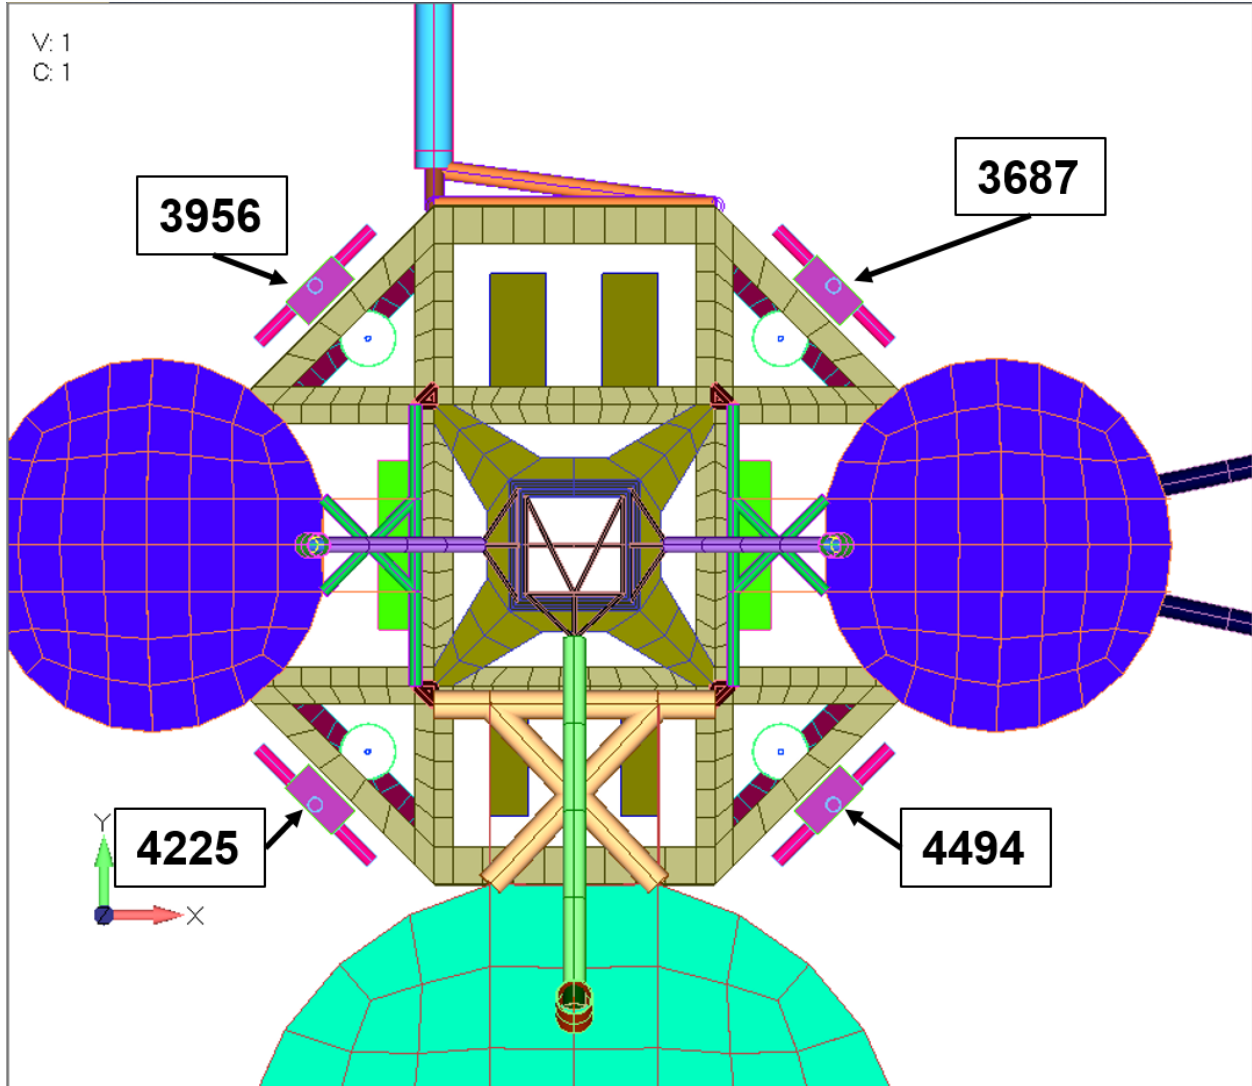
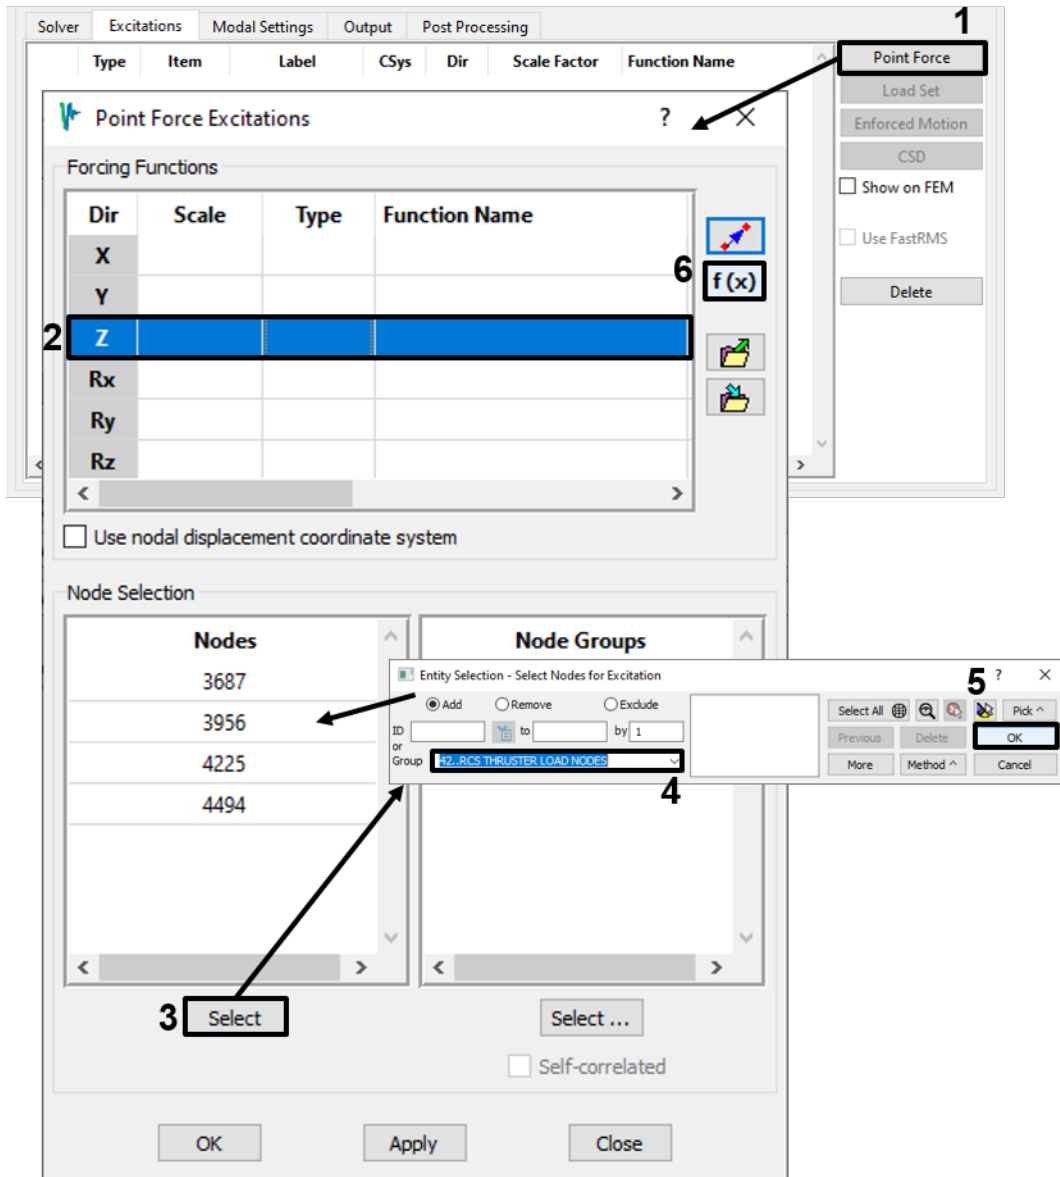

Figure 4-92. Nodes for RCS thruster loads.
Figure 4-93. Use the Point Force dialog to assign a Z-direction force to each thruster node.
- The RCS system will fire a pulse to translate the spacecraft along its Z-axis, let it drift for half a second, then fire a reverse pulse to stop its translation. We will simulate this by applying a point-force excitation at each RCS thruster node (Figure 4-92). On the Excitations tab, bring up the Point Force dialog (Figure 4-93). Select the individual thruster nodes as shown, highlight the Z-direction row in the Functions table, and click **f(x)** to bring up the Function Manager.